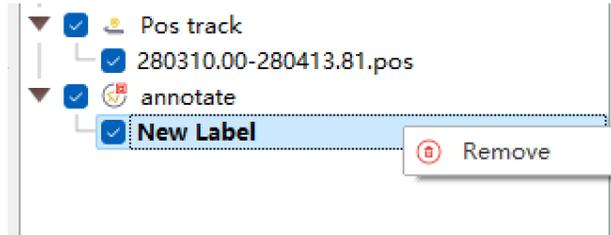

Figure 3-120 Labeling Points in Layers
- (4) After adding a markup point it will be automatically loaded into the markup layer in the workspace (Figure 3-120).
- (5) Right-click on the annotation point name to bring up a dialog box and click Remove to remove the annotation point name from the workspace and the annotation point from the view.